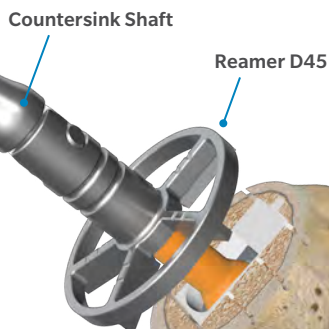

Figure 30
- Connect the Reamer D45 with the Countersink Shaft and start reaming over the Reamer Guide in the stem (Figure 30).